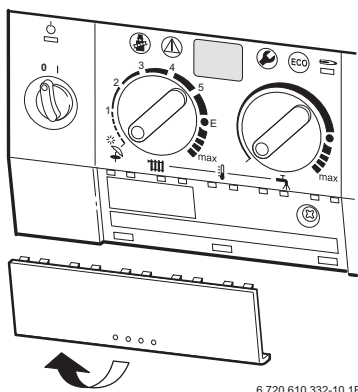

Fig. 27
- ▶ Pull out cover panel at the bottom and remove. Refer to fig. 27.